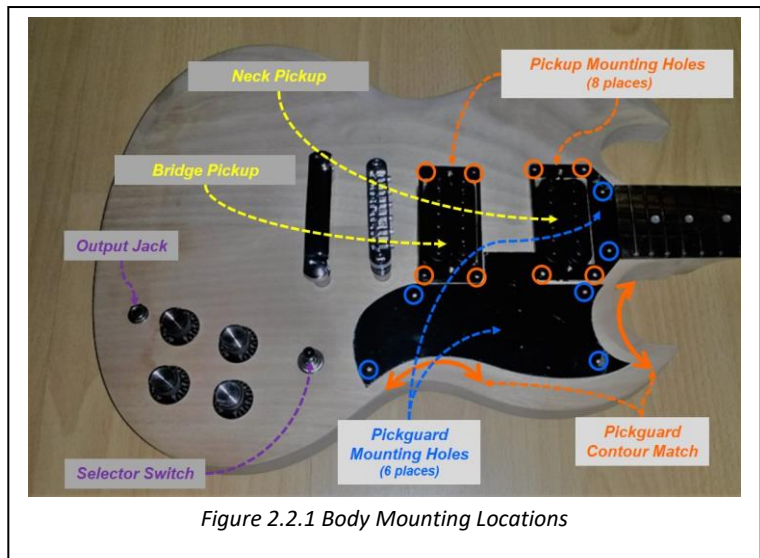

Figure 2.2.1 Body Mounting Locations
| 2.2.1 | Mounting of Pickups & Pick guard (reference Figure 2.2.1) | - 2 - |
2.2.1 Mounting of Pickups & Pick guard (reference Figure 2.2.1)
1. Insert and ensure proper fit of the Selector switch (item #15 on material list) into the respective Body mounting hole (Figure 2.2.1). Enlarge if necessary with a round file;